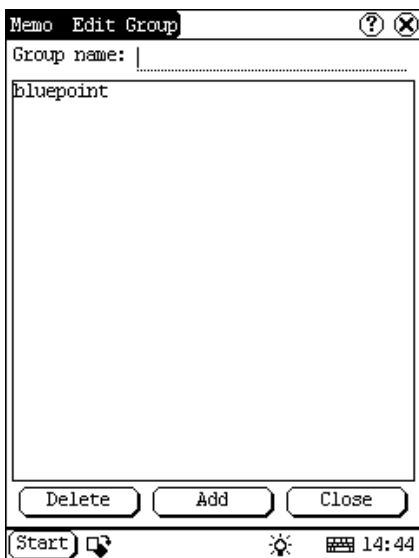

Figure 5-17
- 5) Click [Add] button to add a new type and it will be displayed in the list box of the Edit Group interface. (See Figure 5-17)